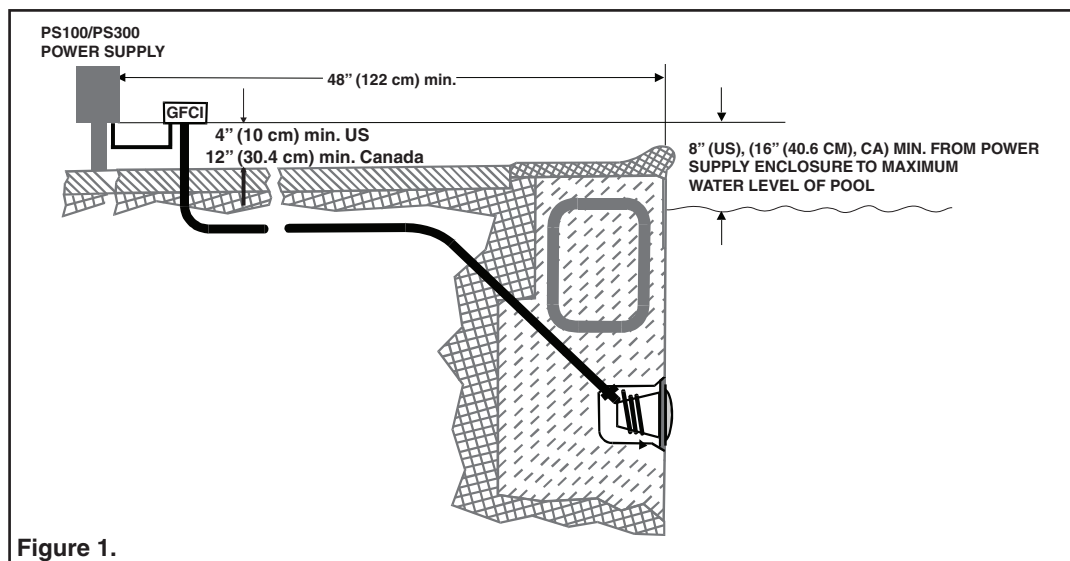

Figure 1.
- Install the Power Supply Enclosure vertically, not less than (four (4) in. (10 cm) US (Canada 12 in. (30.4 cm)), above the ground level or pool/spa deck, whichever provides the greater elevation. The Power Supply Enclosure shall be no less than 8 in. (US), 16 in. (40.6 cm, Canada) above the maximum pool water level and 48 inches (122 cm) from the inside wall of the pool, unless separate from the pool by a solid fence, wall, or other permanent barrier. See NEC article 680-21(b) of the current National Electrical Code. See Figure 1.